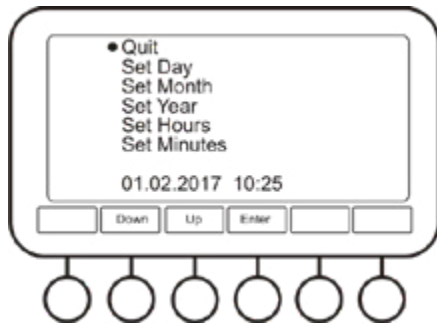

Fig. 5. Date & Time menu
4.9.2. **Date & Time** (fig. 5). To set date and time in this submenu, press **Enter** button to select the parameter, then **Down** and **Up** buttons to change the value and **Enter** button to confirm changes.